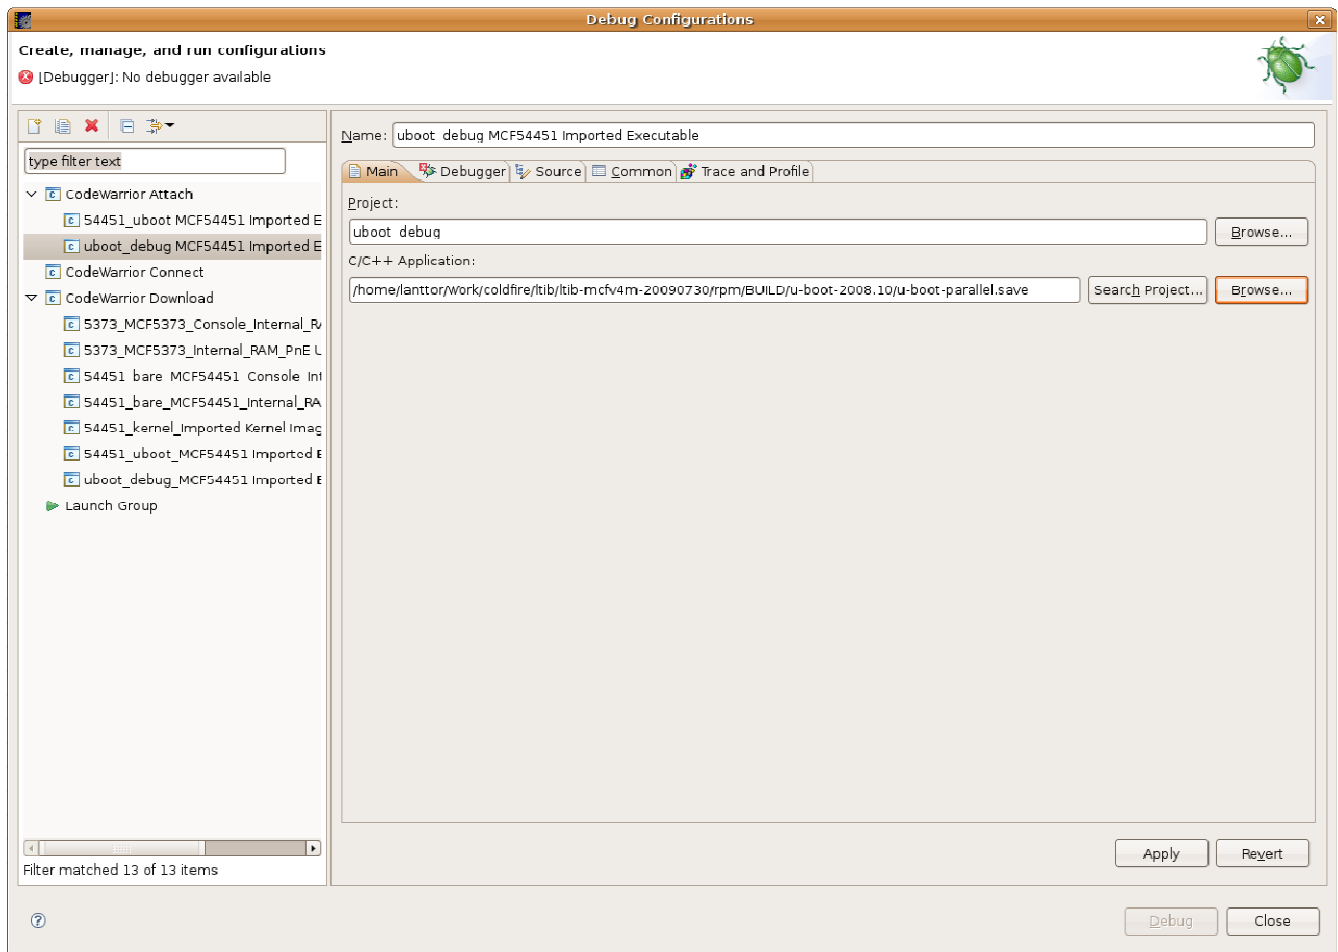

Figure-4 Debug configuration
8) Right click on the project and select **Debug As->Debug Configuration...**, The debug configuration dialog appears. Double Click **CodeWarrior Attach** to create new attach configuration for project. Please refer to Figure-4.